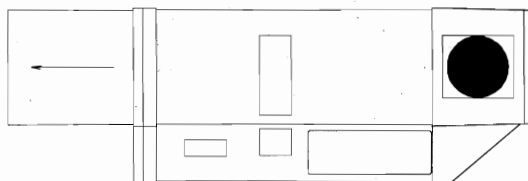

Fig. 6.2
- Undo the "Philips" screws which secure the filter holder. Grasp the filter holder by its "nose" and pull it out horizontally keeping hold of its "nose" (see fig 6.2).